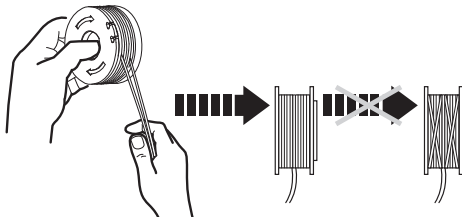

Fig. 27
8. Wind all the trimming line (13d) firmly around the spool in direction of the arrows on the trimming spool (13c) (Fig. 27).